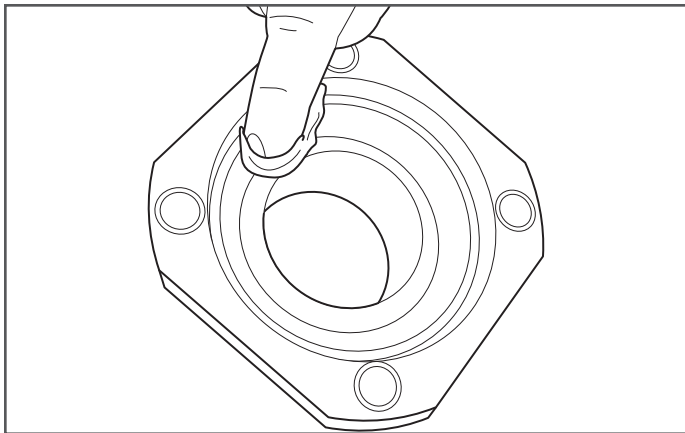

Figure 9-10
10. Use clean bearing grease or lithium grease to coat the interior surface of DoubleTrac® fitting front adaptor (Figure 9-10).